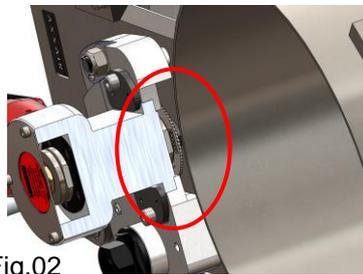

Fig.02
- Position the tube slightly away from the cutting tool and tighten it (Fig.02).